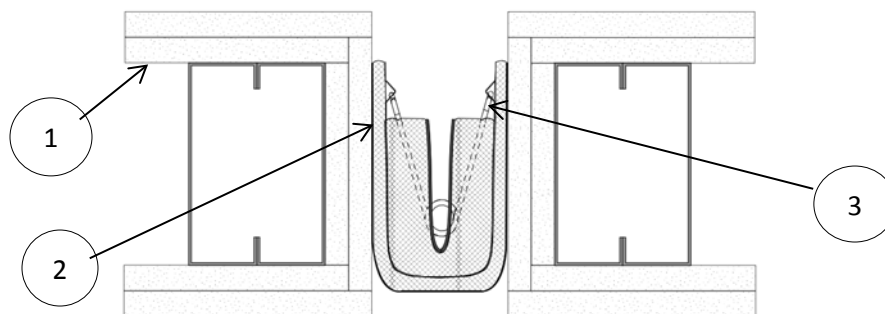

Figure 1
- SUPPORTING CONSTRUCTION:** 2 hour rated gypsum wall assembly made from two layers of 5/8 in. thick gypsum board, fastened to minimum 25 GA steel studs or minimum 2x4 wood studs in accordance with the corresponding listed design. Install steel box studs or wood double studs on both sides of the joint. Gypsum board must be installed in the throat of the joint as shown in Figure 1.